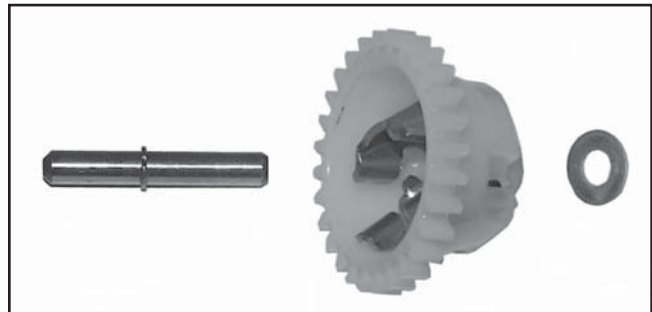

Figure 11-6. Governor Gear Assembly.
- Install the governor shaft through the gear and add the thrust washer to the shaft. See Figures 11-6 and 11-7.
- Install governor gear assembly into the crankcase using a press, or a drift with light taps, until the tip of the shaft is 78.862 mm (3.105 in.) below the machined gasket surface of the crankcase. See Figures 11-6 and 11-7. Install the washer and cup on the shaft.